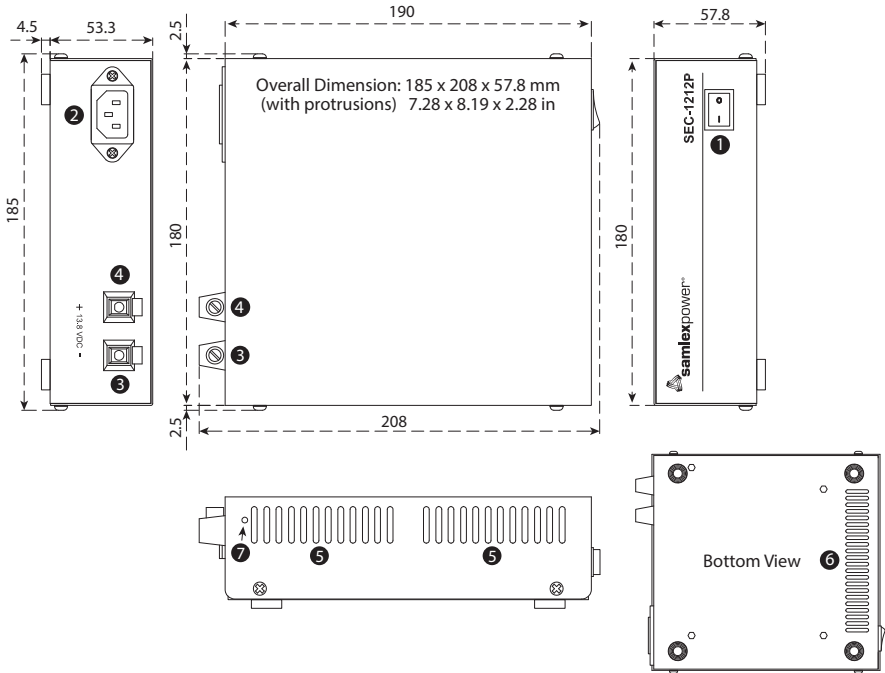

Figure 2.1 Layout & Dimensions - SEC-1212P
NOTES: 1. The top cover will fit properly only when the 2 lanced tabs (7, Fig 2.1) are oriented towards the DC output terminals (3) and (4).
NOTE! The DC output connectors (3 and 4, Figs 2.1 to 2.3) have a tubular hole of diameter 0.2" (5mm) with a set screw. For a firm connection, crimp/solder pin type copper terminal on the cable ends of your 12V DC device (2 Pin Type of terminals (for wire size up to AWG #8) have been supplied with the unit).
REMARQUE ! Les connecteurs de sortie (DC 3 et 4, figures 2.1 à 2.3) a un diamètre de trou tubulaire 0,2" (5mm) avec une vis. Pour un lien ferme, à sertir/ soudez les broches de cuivre de type borne sur les extrémités du câble de votre appareil DC 12V (2 broches type de terminaux ont été fournis avec l'appareil).
Ensure that the power supply's ON/OFF switch (1, Fig 2.1 to 2.3) is off and the power supply is unplugged from the AC outlet. Switch off your 12 V DC device and connect it's Positive and Negative to the RED (Positive) and BLACK (Negative) terminals respectively (3 and 4, Figs 2.1 to 2.3). Ensure that the connections are secure and tight. Plug the power supply into the
SEC-1212P is cooled by convection. For this, it has ventilation slots on the 2 sides of the top cover (5, Fig 2.1) and in the bottom housing (6, Fig 2.1).
- Ventilation slots on the sides of the top cover (5, Fig 2.1) and in the bottom housing (6, Fig 2.1) are blocked
In SEC-1212P, there is no fan. Cooling is carried out by convection through the ventilation slots on the 2 sides of the top cover (5, Fig 2.1) and in the bottom housing (6, Fig 2.1). For improved cooling of the Primary Heat Sink through conduction, the air gap between the top surface of the Primary Heat Sink and the bottom surface of the top cover is filled by using a thermally conductive gap filler strip of soft, ceramic filled silicone elastomeric material. When the top cover is removed and fitted back, its orientation has to be such that the thermally conductive gap filler strip gets positioned properly on top of the Primary Heat Sink. To ensure this, 2 lanced tabs (7, Fig 2.1) are provided in the top cover that will slide into the corresponding slots in the rear side of the bottom housing. The top cover will not fit properly if the 2 lanced tabs (7, Fig 2.1) are facing towards the front side of the bottom housing because the lances tabs will interfere with the top edge of the front side of the bottom housing (there are no corresponding slots on the front side of the bottom housing).